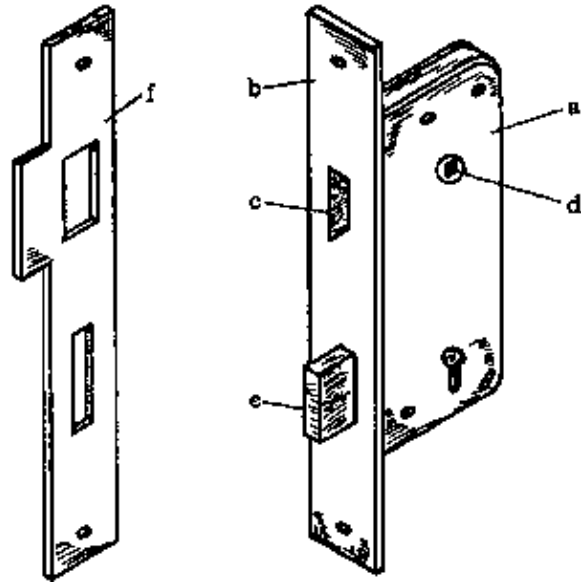

Fig. 1
Locks are normally fixed at a height of 105 cm, measured from the floor to the centre of the handle (Fig. 1).
– MORTICE LOCKS: Mortice locks (Fig. 1) consist of a stock (a), faceplate (b) and the latch bolt (c) moved by the handle. The handle fits into the bush (d) and there is a lock bolt (e) moved by the key. The two bolts fit into holes in the striking plate (f) which is attached by screws to the door post.